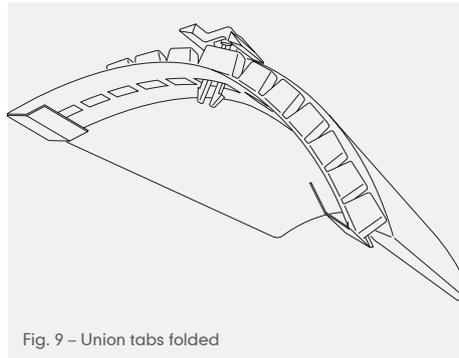

Fig. 9 – Union tabs folded
- 8 When the union clamp is fully engaged in the ridge union, it may create an interference fit with the sub-structure. In this case, the protruding length of the clamp can be snapped off or folded below the ridge union flange (Fig. 9).